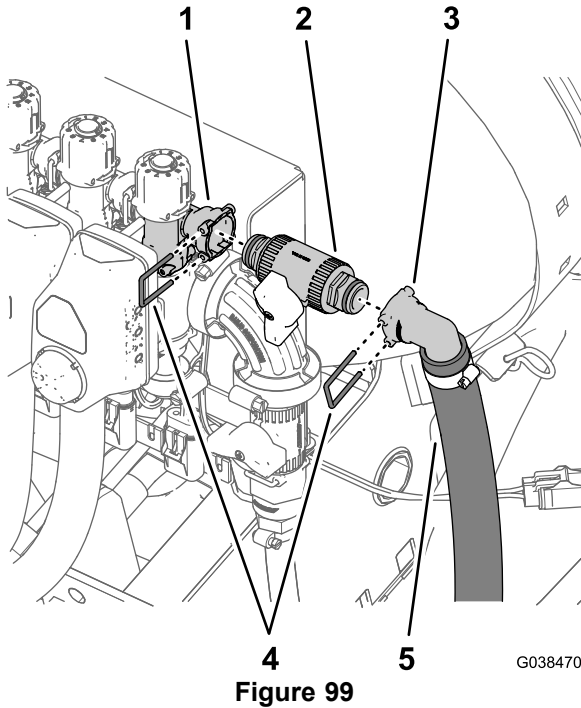

Figure 99
1. Assemble the bypass shutoff valve to the quick-connect socket of the bypass manifold (Figure 99) with the small retainer that you removed in step 1 of Repositioning the Section Bypass Valves (page 40).
Note: Ensure that the handle of the bypass shutoff valve is aligned as shown in Figure 99.
2. Assemble the 90° quick-connect fitting of the section bypass hose—2.5 x 146 cm (1 x 57-1/2 inches) onto the quick coupling of the bypass shutoff valve with the retainer (small) that is supplied with the section bypass hose (Figure 99).